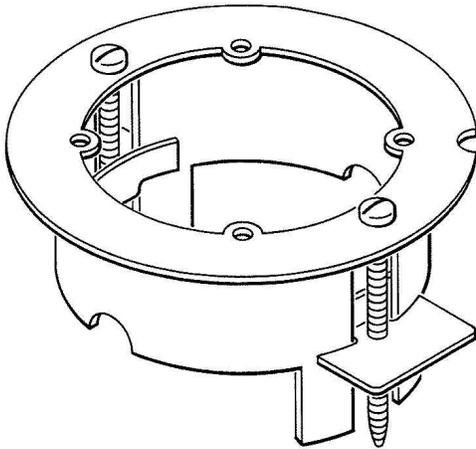

Fig. 28 — KS-19407, List 1 Bracket
**3.05** The KS-19407, List 1 bracket (Fig. 28) is similar in function to the 63A bracket except that it is designed for use in existing walls